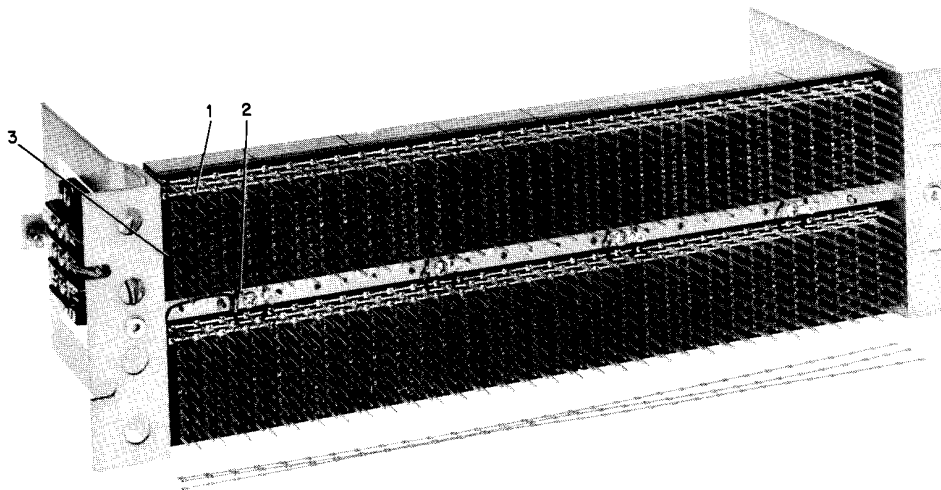

Figure 5-1 Logic Ground Mesh
proximately every two inches (once per H800 module block), using solid wire and white spaghetti insulation. (3) Wirewrap all grounded pins together for each vertical module row (pins C and other ground pins). This ground mesh (see Figure 5-1) will form a stable base for satisfactory logic performance.